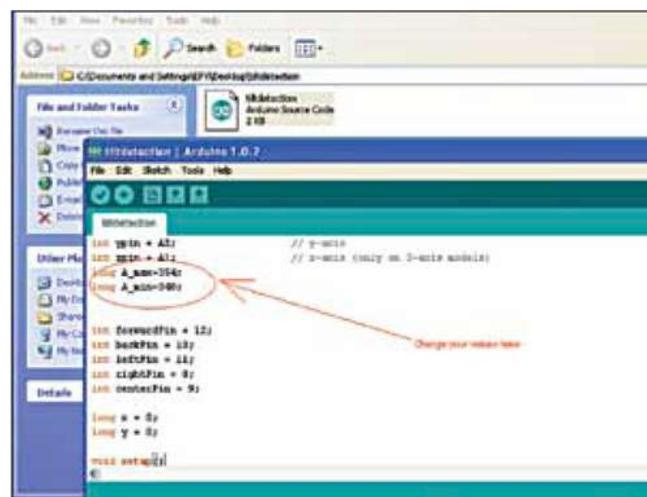

Figure 4: Screenshot of changing trigger values
- Open the final code in the Arduino IDE and put the values for 'A\_max' and 'A\_min' as shown in the Fig. 4.